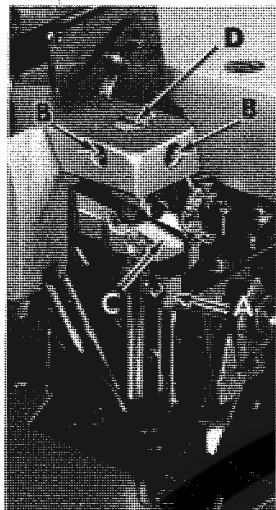
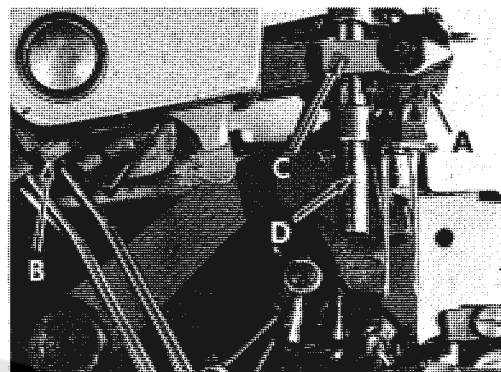
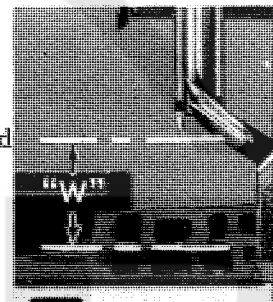

Fig. 5
Fig. 6
Fig. 7
With throat plate assembled in position, the needles should center in the throat plate needle slots (left to right). The needle head (A, Figs. 5 and 6) can be repositioned by loosening set screws (B, Fig. 5) and binder screw (B, Fig. 6) in needle drive lever (C, Figs. 5 and 6); then; simultaneously turning needle head guide bar (D) which is an eccentric and sliding the needle drive lever (C) to the left or right on needle rock shaft as required to alleviate bind. When proper left to right needle position is obtained, tighten set screws (B, Fig. 5) securely and tighten screw (B, Fig. 6) lightly.
Needle Drive lever (C, Fig. 5 and 6) must also be positioned to set height of needles above throat plate which should be $\frac{7}{16}$ inch (11.11 mm) on Styles 39800 CA and CB; $\frac{17}{32}$ inch (13.49 mm) on Styles 39800 CP, CQ, CX, CY, VCP, VCQ, VCX, VCY with needles at top of stroke (W, Fig. 7). Tap the needle drive lever (C, Figs. 5 and 6) lightly up or down to obtain desired needle height. Needle gauge No. 21227 DD can be used by placing it on top of the throat plate and bringing the needle head bottom to rest on top of the gauge. This will have the needles at the bottom of their stroke. Note that the gauge has separate heights, one for high, the other for low capacity machines. Tighten screw (B, Fig. 6) securely.